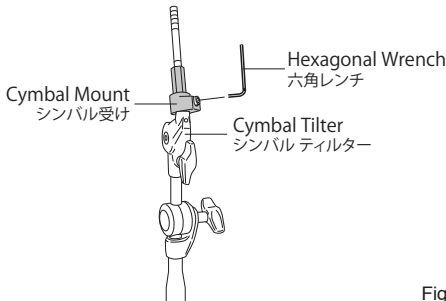

Fig. 1
1. Attach and position the CH-830ES securely onto the rack using a recommended clamp. Unscrew and remove the Cymbal Nut from the Cymbal Holder. Insert the Cymbal Mount onto the Cymbal Tilter until fully seated as shown. Tighten the hexagonal screw with the provided wrench (Fig. 1).
シンバル受けをシンバルティルターのロッドに根元まで差しこみ、付属の六角レンチで固定します (Fig. 1)。